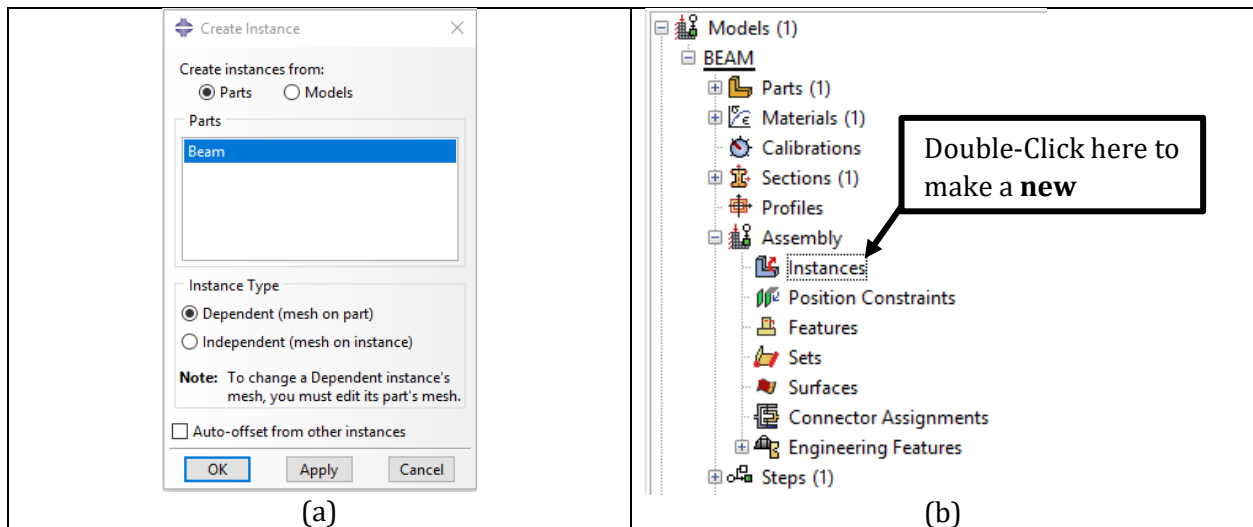

Figure 2-13 – (a) The Create Instance dialog box and (b) The Model Tree.
1. In the **Model Tree**, expand the branch for the **Assembly** of the model **BEAM** and double-click **Instances** to create a new part instance as shown in Figure 2-13(b).
Abaqus/CAE switches to the Assembly module, and the **Create Instance** dialog box appears. See Figure 2-13(a).